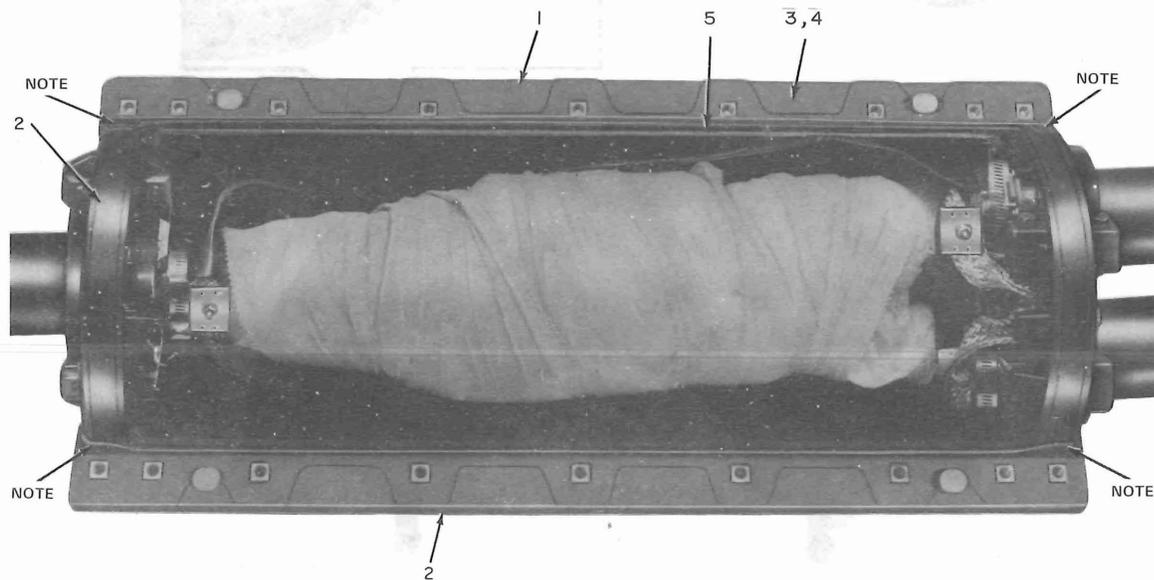

Fig. 42—Placing Cover Halves Using B Sealing Tape and Cord
polyethylene tape (PIC) as outlined in Section 632-490-200. Proceed to Fig. 42 or 43.
6.03 Procedures for installing 2-type cover halves on end plates that *did not* require any tools to maintain proper alignment and spacing of end plates (Standard Method) during splicing are outlined in Fig. 42 or 43.
2. Install back cover as outlined in Fig. 42 or 43.